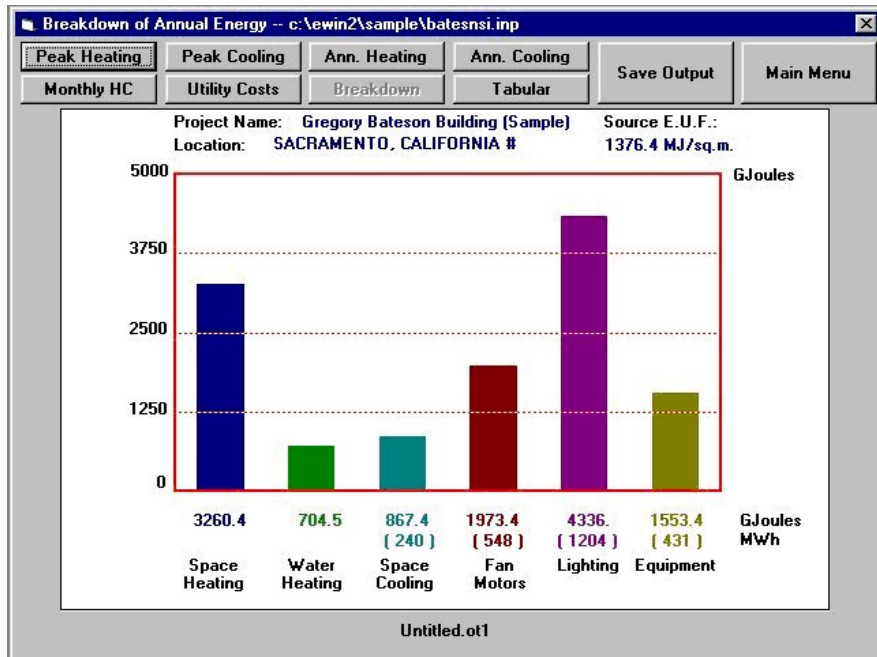

Fig. 18 Sample graphical summary of energy breakdowns
8. Click "OK" when you are done specifying the simulation parameters. While the simulation is underway, the "Run Status" button will change to "Please Stand By". Do not click on any buttons at this stage. The run shows a progress meter as it is performing the 8760 hours of annual simulation. Once the simulation is done, the program will report the run time, in seconds, and activate a button that says "Review Output." You should then click the Review button, which results in the display of the annual breakdown of energy use (See Figure 18). You may also view the output later after you have returned to the main menu (See Figures 18 and 19).